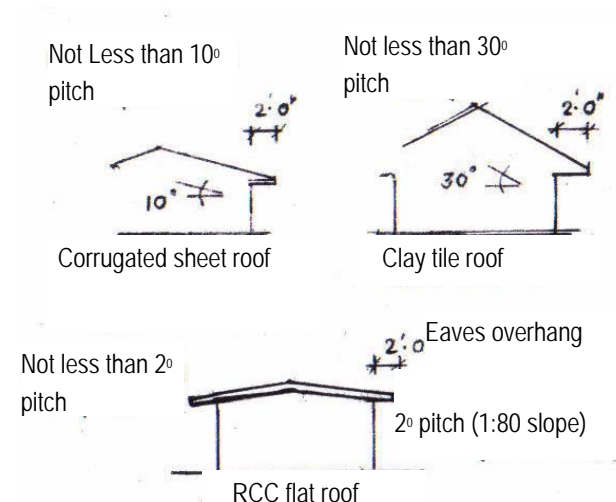

Fig 30 - **Recommended roof profiles**
- Made sure that the pitch of the roof is as specified - permissible minimum pitches for different roof types (corrugated sheet roofing, clay tile & RCC flat roof) should not be exceeded (See fig. 30)